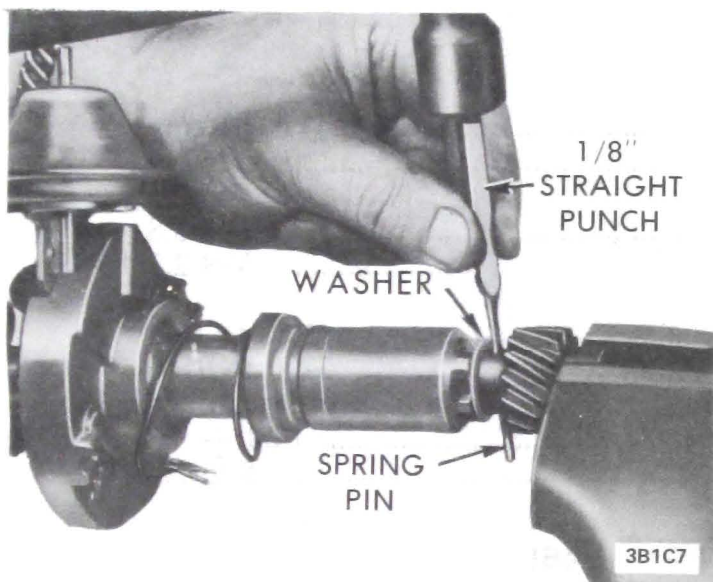

Figure 1C-7 Removing Spring Pin
5. *Distributor Shaft* Check for excessive wear between shaft and bearings in distributor housing. Using a 1/8" pin punch, remove driven gear roll pin, driven gear, washer and lift distributor shaft out of housing. See Figure 1C-7.